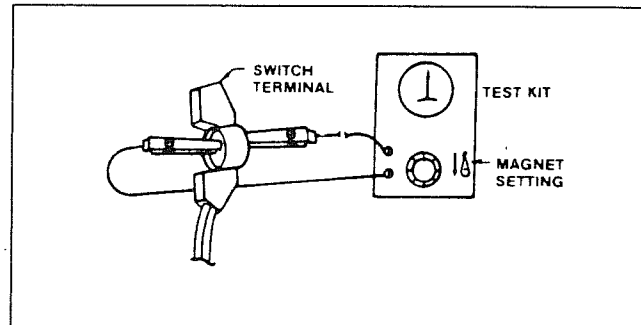

Fig. 3
- B. With Test Kit on 'Magnet' setting and dial set for maximum amperage, check for switch closure and continuity through the switch by touching clips to opposite switch terminal contacts as shown in Fig. 3.